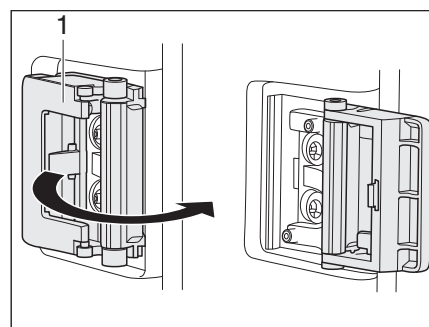

Fig. 117 Locking/releasing the refrigerator door
- Pull the locking hook (Fig. 117/1) forwards. When the refrigerator door is closed it remains slightly open in order to avoid mould formation.